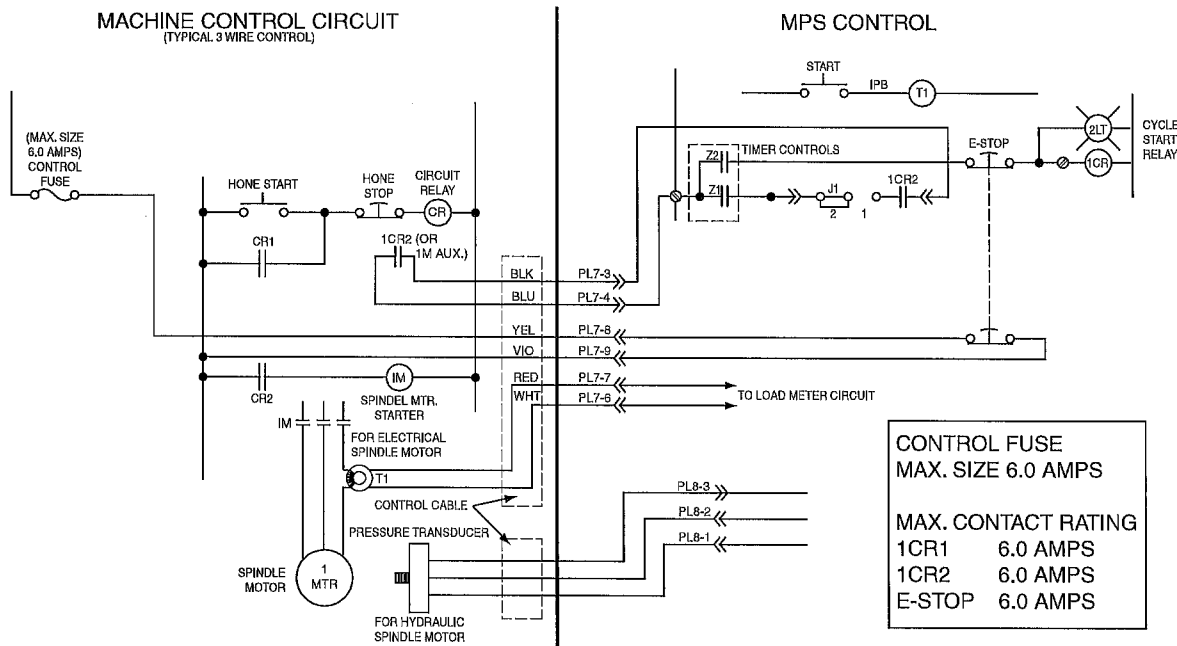

FIGURE 1-8, Wiring Option 2
3. WIRING OPTION 2, Slave Control Mode (see Figure 1-8).